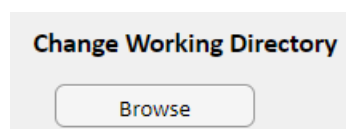

Figure 24: Change working directory.
- working directory can be changed by clicking the 'Browse' button under the 'Change Working Directory' option. (Fig. 24)